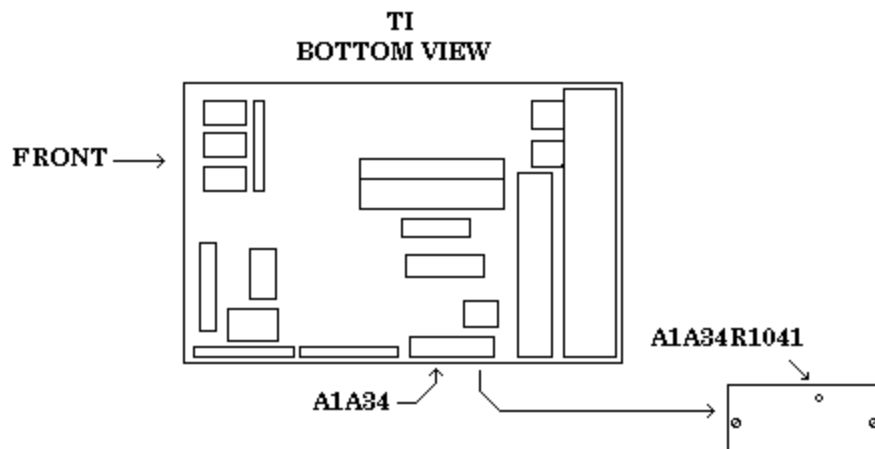

Figure 2. Cal out level adjustment.
- (1) Disconnect equipment setup.
- (2) Press and release TI spectrum analyzer **POWER** key to **OFF**.
- (3) Disconnect TI power cord.
- (4) Set TI spectrum analyzer on its front panel.
- (5) Loosen four screws through the back rubber feet.
- (6) Pull cover up and off.
- (7) Place TI on its top and reconnect power cord.
- (8) Connect measurement receiver power sensor module to TI **CAL OUT**.
- (9) Depress TI spectrum analyzer **POWER** key to **ON**.
- (10) Adjust A1A34R1041 (fig. 2) for a -20.0 ± 0.3 dBm indication on measuring receiver (R).